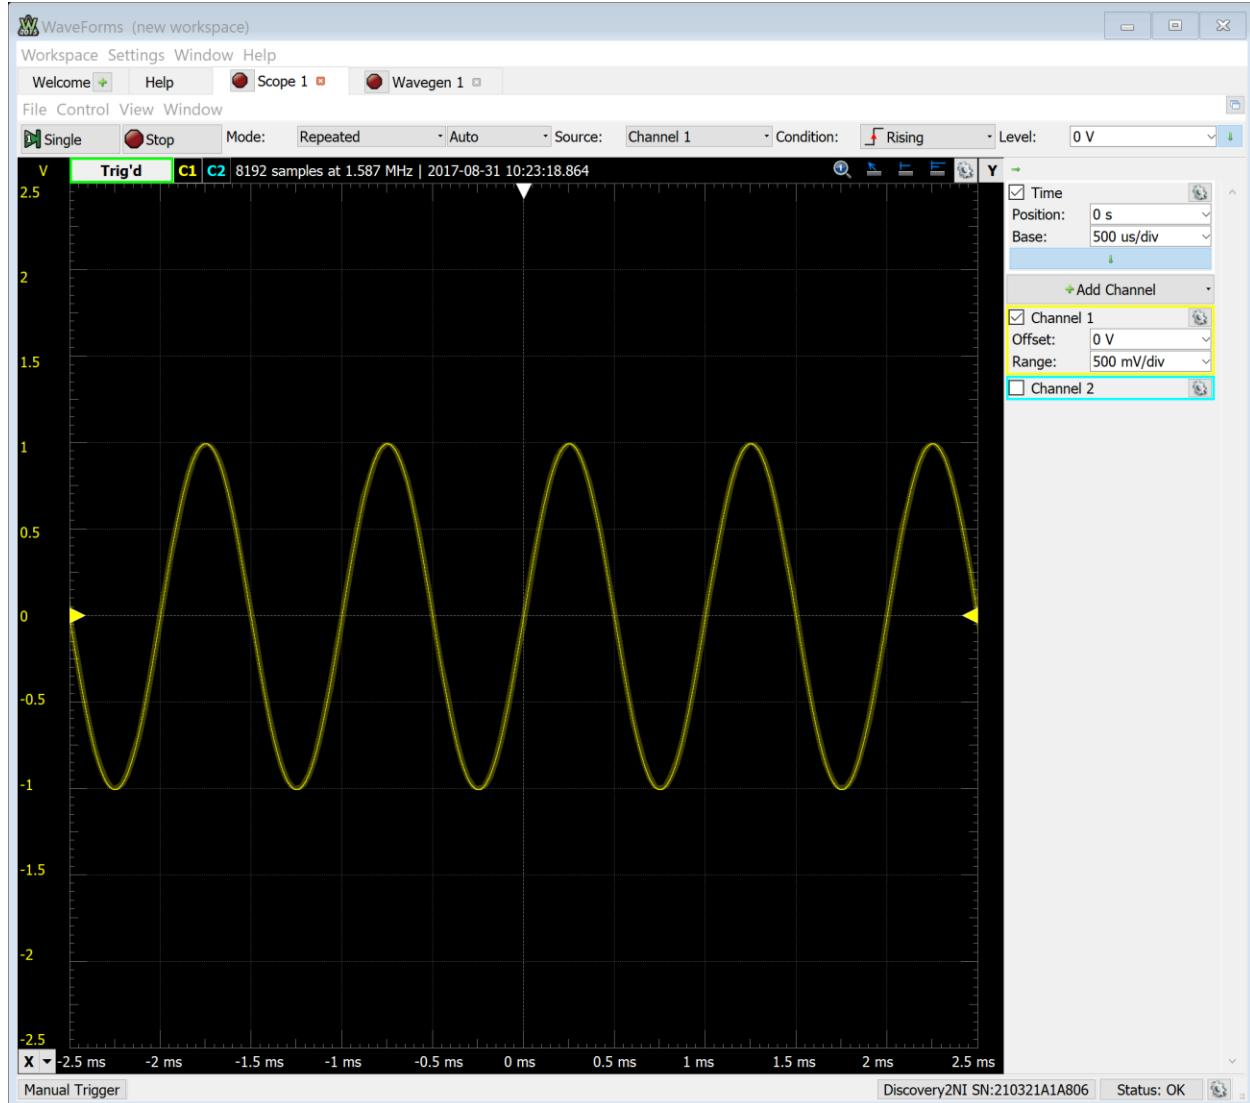

Figure E.5: AD2 Oscilloscope Window
Use the “scope” button from the main window to launch the AD2’s oscilloscope. An oscilloscope measures time varying voltages and displays them on a screen. A typical scope output looks like the one shown in Figure E.5. There are several parameters you will need to select including:
- Source: Where do you want to measure the voltage from? In the case shown in Figure E.5, Channel 1 is selected as the source and so the scope is measuring the voltage between the terminals 1+ and 1-.
- Time: These parameters select the scale of the horizontal (time) axis. In the example in Figure E.5, the time based is set to 500 μ sec per division.
- Channel 1: Right below the settings for the time axis are the settings for the vertical (voltage) axis. In the case of Figure E.5, the voltage scale is set to $\frac{1}{2}$ volt per division. If Channel 2 were selected, there would be a different axis scale setting for the Channel 2 voltage. They don’t need to be on the same scale.
- Condition: This sets the triggering mechanism for the scope which determines how the waveform is centered on the scope display. In the case of Figure E.5, the triggering is set so that the center of the waveform occurs when the rising edge crosses the 0V level.